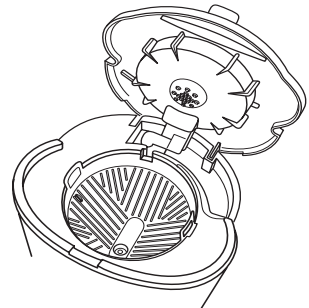

FIGURE 3
**NOTE: The Removable Filter Basket must be placed into the Coffeemaker with the 2 handles, located on the sides of the Filter Basket, aligning with the 2 notches on the inside of the unit (see Figure 3). Press the Filter Basket down until it clicks into place.**